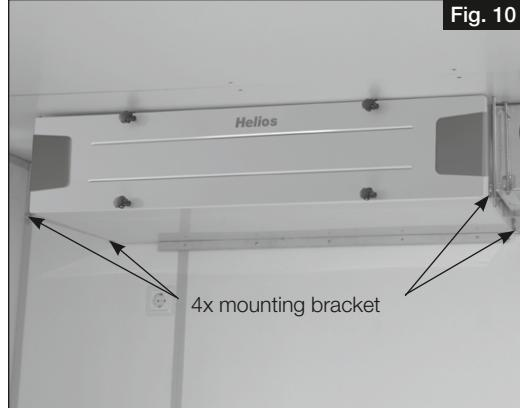

Fig. 10
2. Attach mounting bracket with anti-vibration dampers (4x; included in delivery) to the lower side walls with metal screws (see Fig. 10 and Fig. 11).